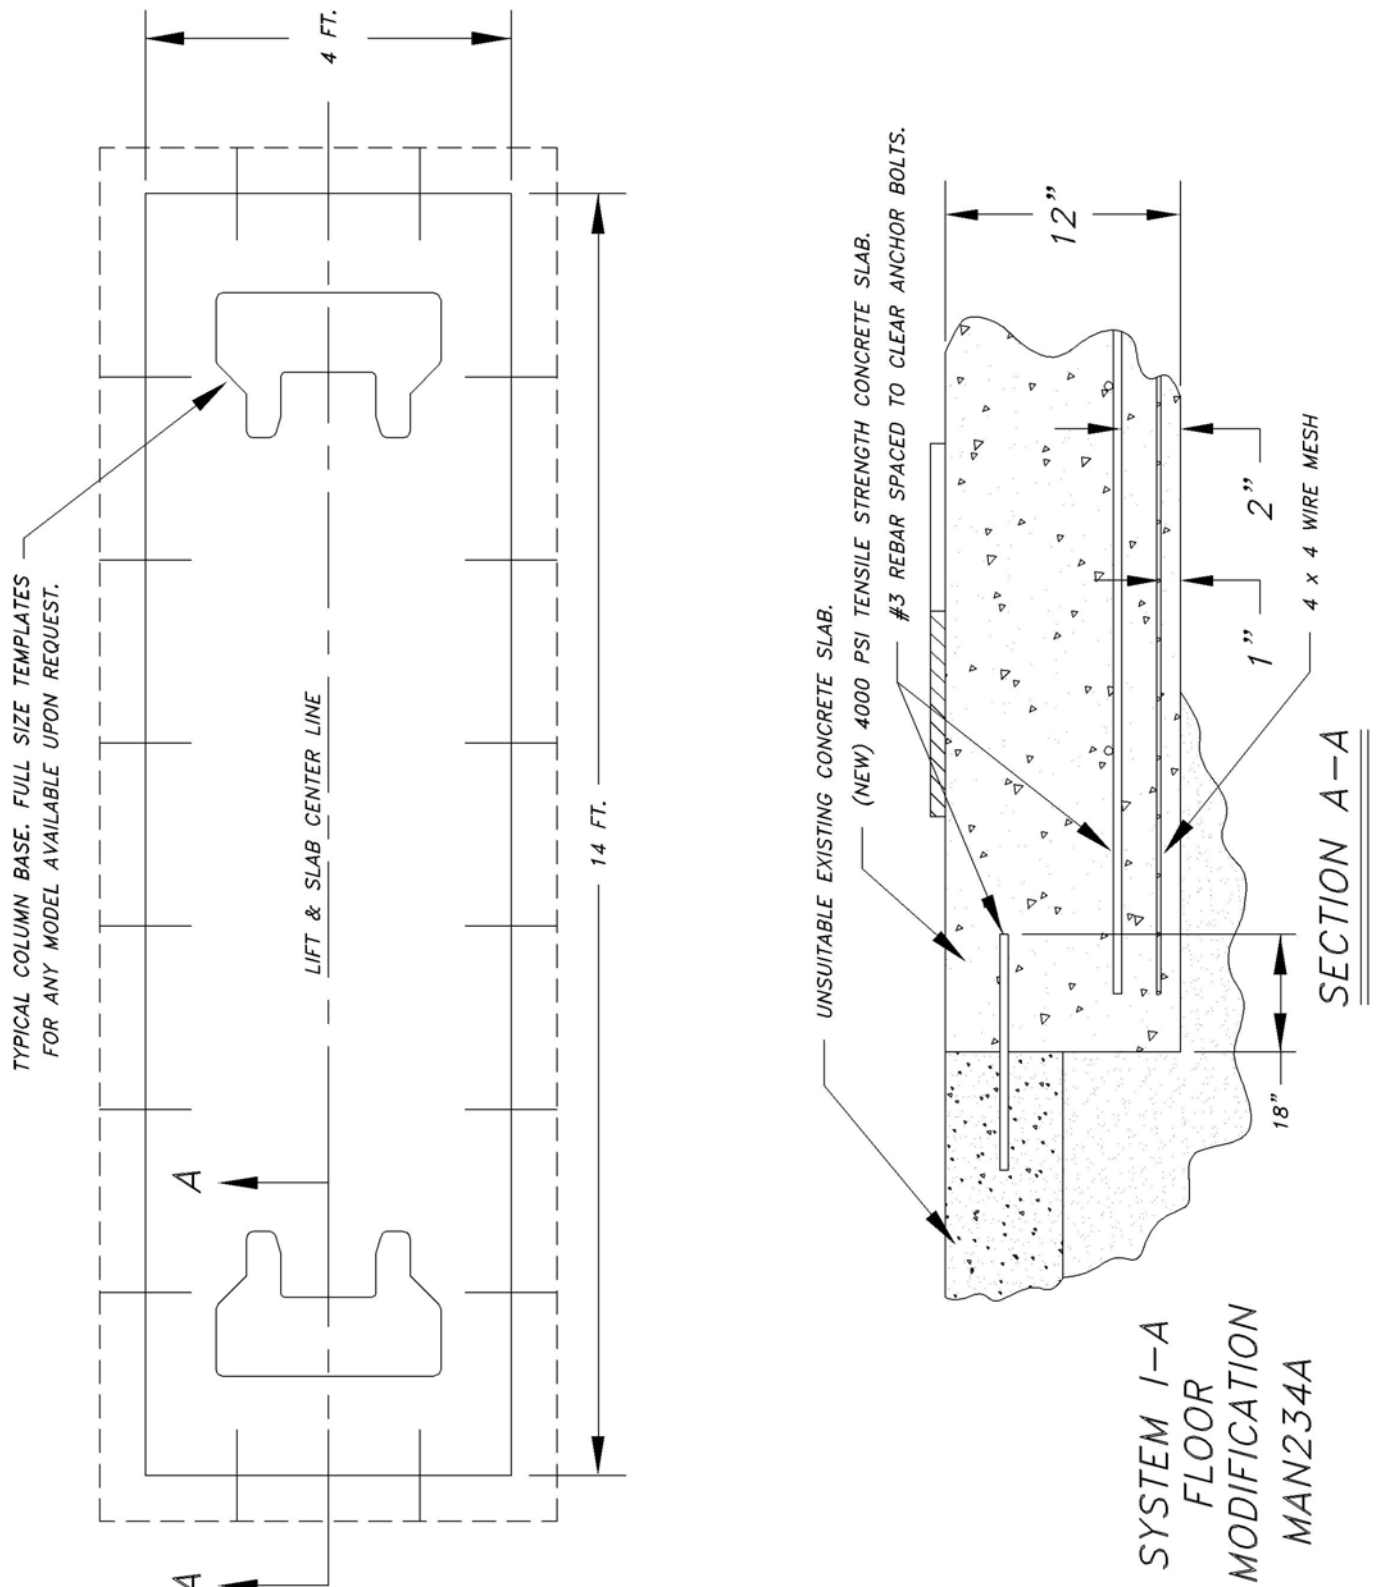

Figure 1
1. Check cables for wear or damage. Any cable with broken wires, severe corrosion, excessive stretch, deformed strands, variations in diameter (necking), any change from normal appearance, or loose end crimps, must be replaced. If any area of the cable is found to be defective, the entire cable must be replaced. Refer to Figures 1, 2, 3, and 4 below: